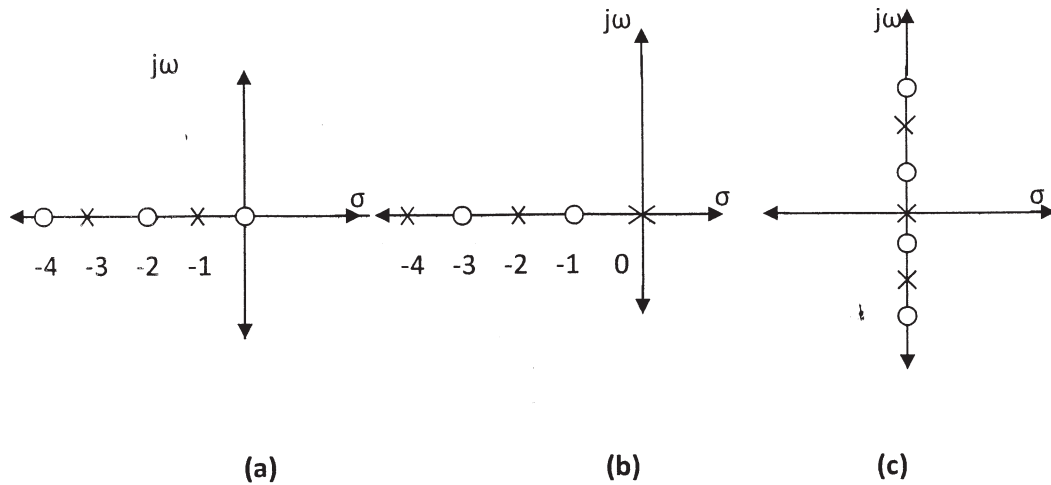

Figure 1 (a),(b),(c)
- Q3) a)** From the pole-zero plots shown below in figure 1 (a), (b), (c) identify the plot indicating RL impedance and synthesize it using foster - I form. Assume $K = 1$. [8]